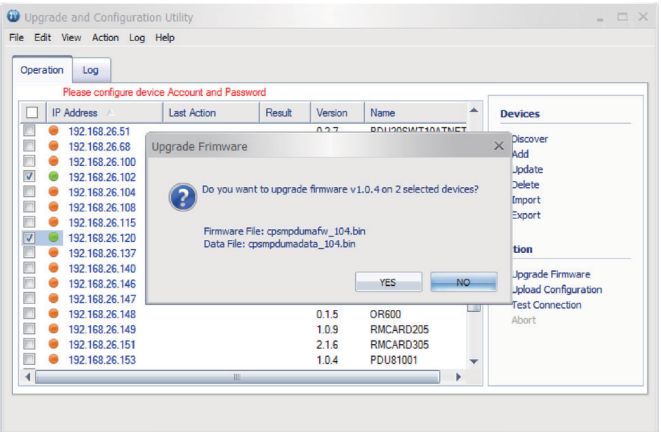

Figure 5
- Click OK in the Upgrade Firmware confirmation window (Shown in Figure 5).